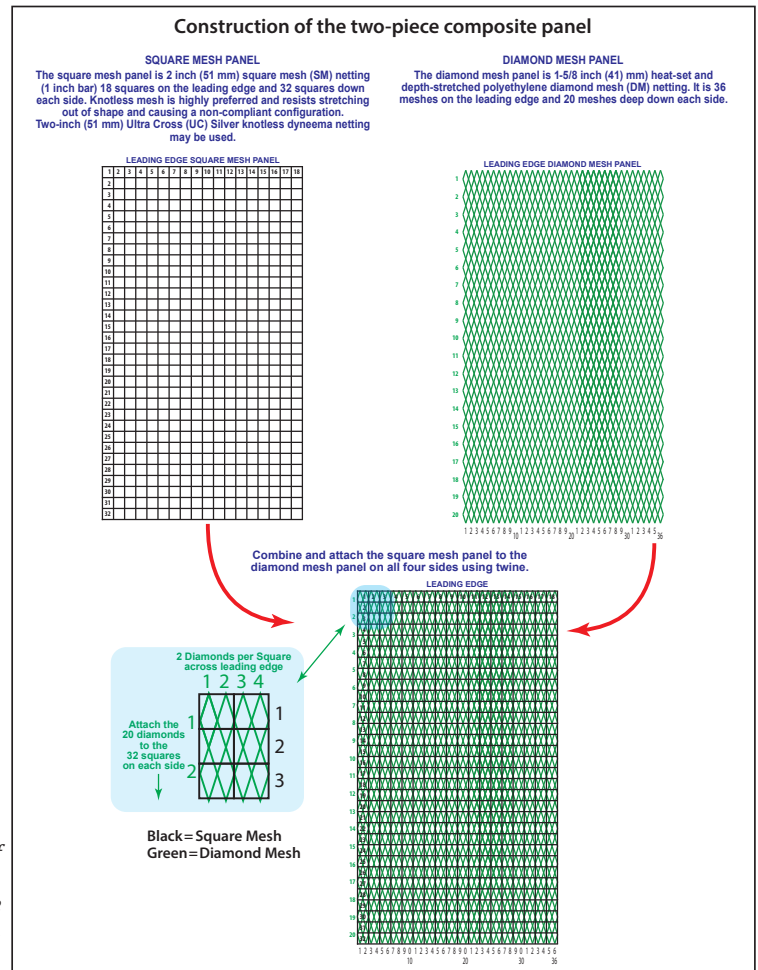

Figure 5. Details of the construction of the Composite Panels.
(See Figure 5) The interior layer is constructed from a rectangular piece of 1-5/8-inch (41 mm) heat-set and depth-stretched polyethylene Diamond Mesh (DM) netting 36 meshes on the leading edge by 20 meshes deep. (See detailed illustration in Figure 5.) The second supportive structural layer is a piece of 2-inch (51 mm) square mesh (SM) netting (1 inch bar) 18 squares on the leading edge and 32 squares down each side. The requirements for the square mesh piece do not specify a particular netting material, but knotless is recommended to prevent slippage. If using knotless, burn the cut ends.